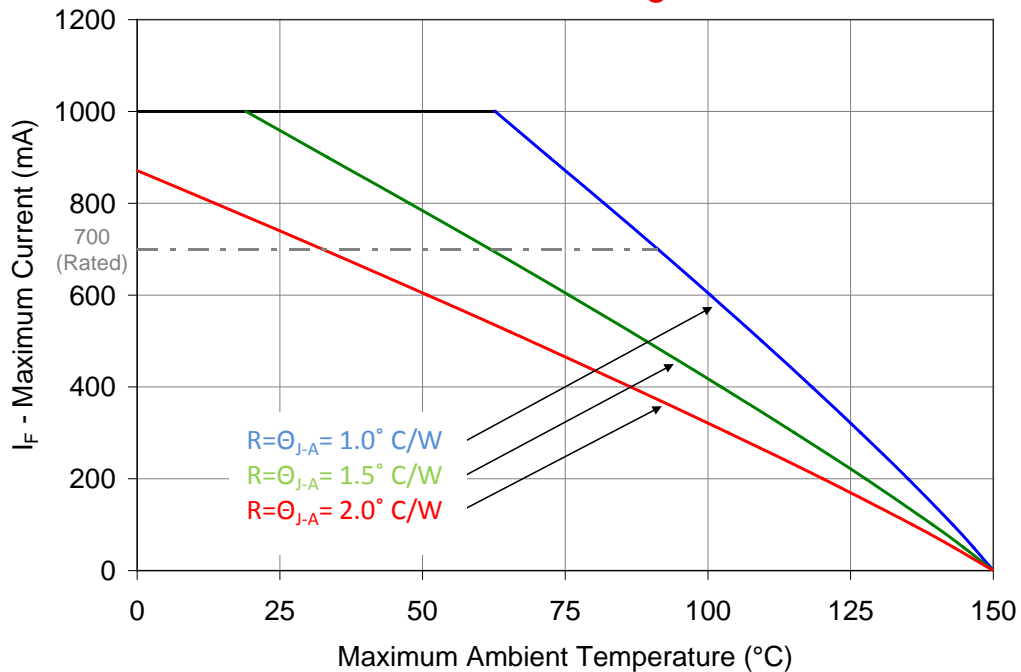

Figure 10: Maximum forward current vs. ambient temperature based on $T_{J(\text{MAX})} = 150^\circ\text{C}$.
- Maximum DC forward current (per die) is determined by the overall thermal resistance and ambient temperature. Follow the curves in Figure 10 for current de-rating.
Notes for Figure 10: